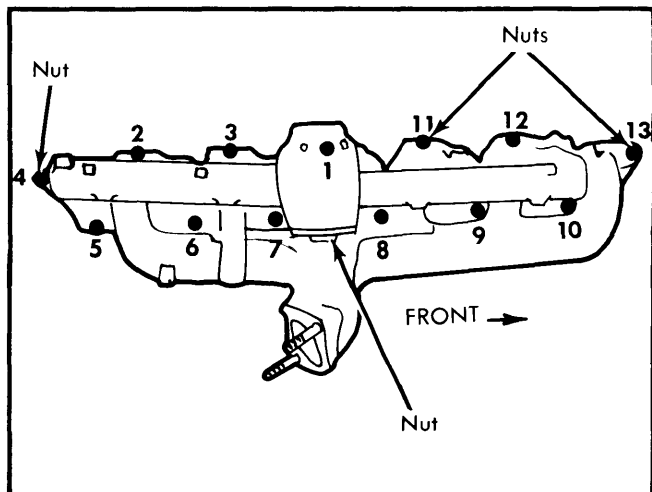

Fig. 1 Intake & Exhaust Manifold Tightening Sequence
3) Coat mating surfaces lightly with graphite grease, place manifold assemblies in position against cylinder head. Make sure gaskets have not become dislodged. Install attaching washers, bolts and nuts. Torque bolts and nuts to specification in sequence shown in *Fig. 1*. If intake and exhaust manifolds were separated, tighten nuts joining both parts.